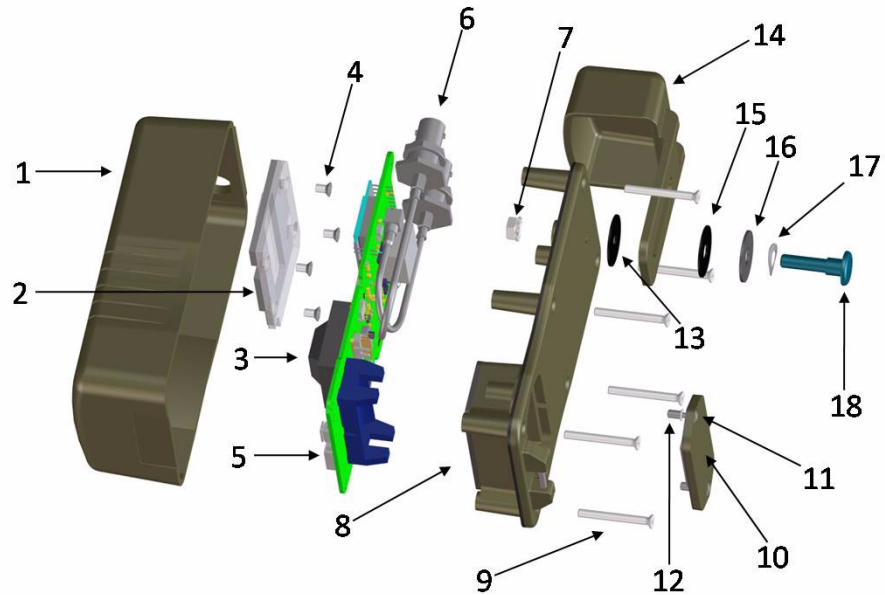

Figure 1 Figure 1 L4610A RTS Repair Parts
- Inspect the two RF cables (p/n L4610-60101) for damage and replace if necessary. Refer to item 6 in the Figure 1 on page 21.